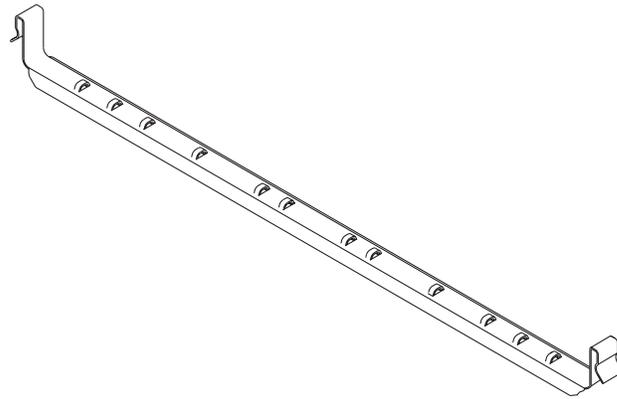

FIGURE 2-13 Cable Management Bracket
- 13. Hook the cable management bracket over the slide mounts at the rear of the system, as shown in FIGURE 2-13.**